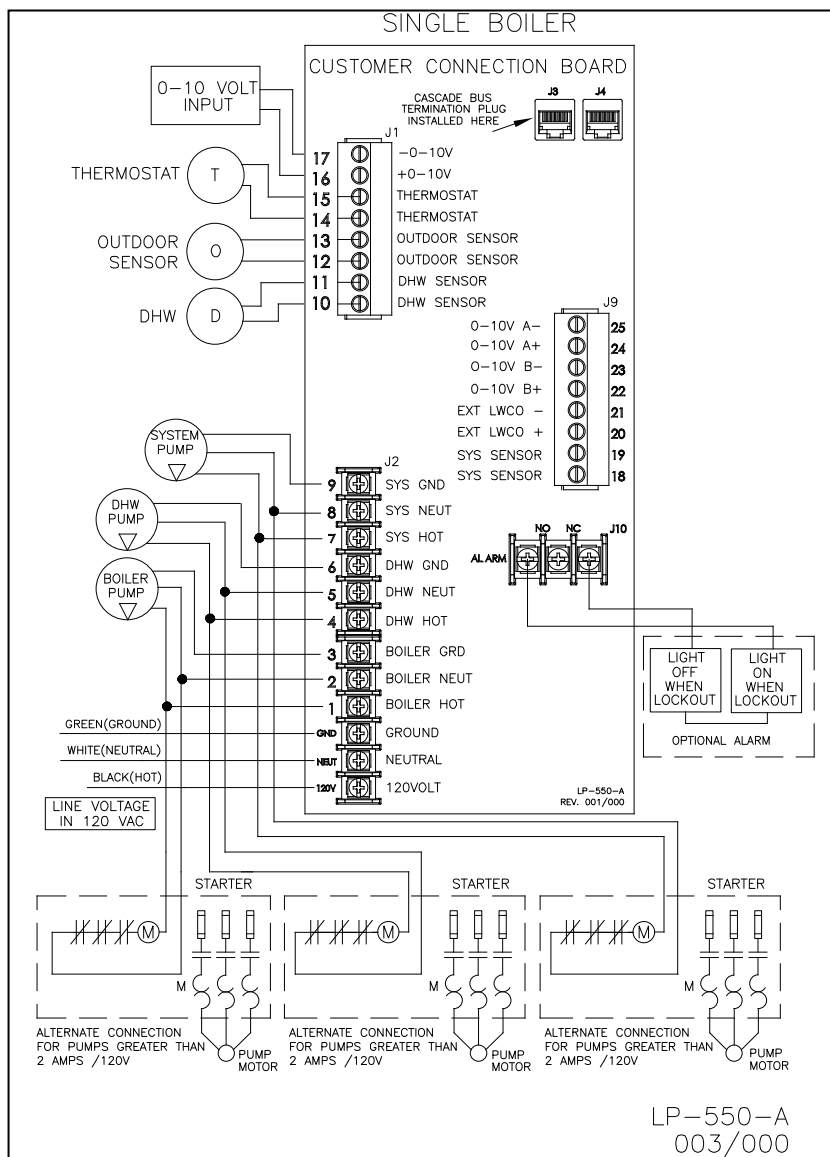

Figure 22 - Control Wiring
NOTE: A termination plug is included in the CAT 3 / CAT 5 Bus Connection Point, labeled J3 in Figure 22. DO NOT REMOVE THIS PLUG! Doing so will affect boiler operation and void warranty.
1. Connect 120V / 60Hz / 15 AMP incoming power wiring to the line voltage terminal strip in the electrical junction box at terminals 120V, Neutral, Ground (shown in Figure 22).
3. Connect the boiler pump as shown in Figure 22 to the terminals marked 1 – (HOT), 2 – (NEUT), and 3 – (GND). The connections shown are suitable for a maximum continuous pump draw of 2 amps at 120 volts. If the pump requires more current or voltage than the 120 volts supplied, an external motor starter or contactor will be required.
The control includes a dry contact alarm output. This is an SPDT circuit, rated at 5 amps at 120 volts. This contact can be used to activate an alarm light or bell or notify a building management system if the boiler goes into a lockout condition. The circuit between the ALARM COM and NC terminals is closed during normal operation and the circuit between ALARM COM and NO is open during normal operation. The connections depicted in Figure 22 show two 120 volt lights connected to the alarm terminals. One light will be on when the boiler is in normal mode and the other light will be on when the boiler is in lockout mode.
1. Connect the room thermostat to the terminals marked THERMOSTAT in the electrical junction box (see Figures 22 and 24). Alternately, any dry contact closure across these terminals will cause the boiler to run. Take caution to ensure neither of the terminals becomes connected to ground.
2. Connect the indirect sensor (7250P-325) to the terminals marked DHW SENSOR (shown in Figures 22 and 24) in the electrical junction box.
2. Connect a building management system or other auxiliary control signal to the terminals marked 16, 0-10 VOLT + and 17, 0-10 VOLT - in the electrical junction box (shown in Figure 22). Caution should be used to ensure that the 0-10 VOLT + connection does not become connected to ground.
1. Connect the boiler pump as shown in Figure 22 to the terminals marked 1 – (HOT), 2 – (NEUT), and 3 – (GND). The connections shown are suitable for a maximum continuous pump draw of 2 amps at 120 volts. If the pump requires more current or voltage than the 120 volts supplied, an external motor starter or contactor will be required.